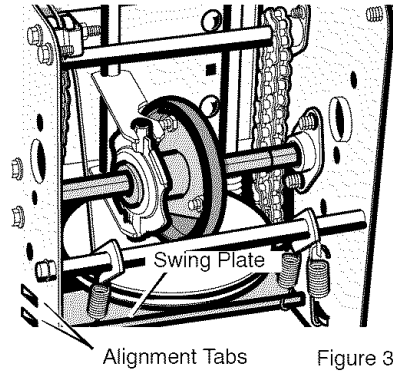

Figure 30
**plate** is properly secured (see Figure 30).